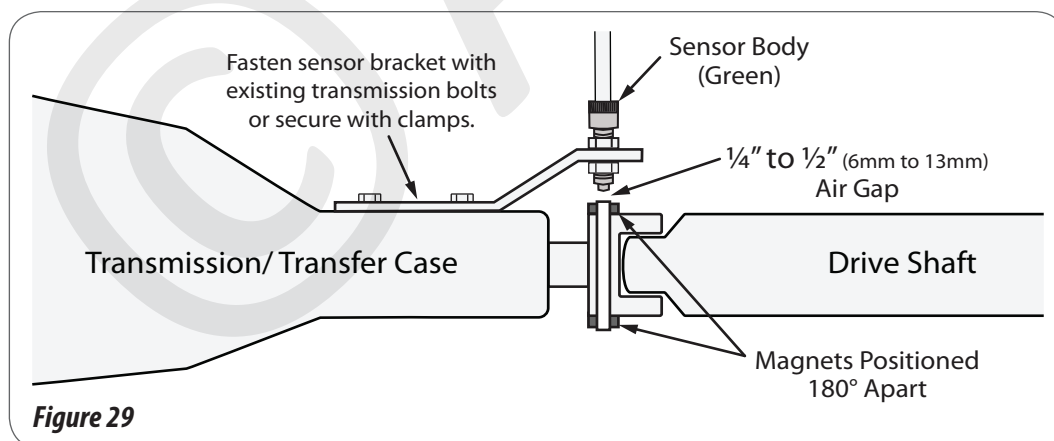

Figure 29
Determine the best location for the magnets on drive shaft according to which is the most practical spot to attach sensor mounting bracket. *See figure 29.* This position should be no more than 12" (.30 meters) behind the front U-joint. For best results, mount "L" bracket to transmission and mount magnets on drive shaft as close to transmission as possible. This will ensure proper alignment if drive train shifts under heavy loading.
- Attach sensor bracket to vehicle transmission. *See Figure 29 below.* Use either the short or long end of the bracket as a base.